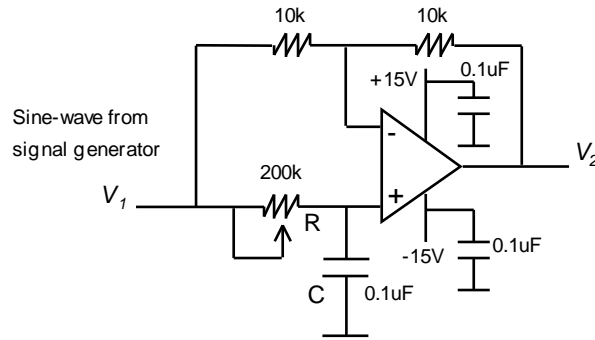

Fig. 2 Phase shifter circuit
Fig. 2 shows a phase shifter circuit, which is constructed using an op-amp ($\mu\text{A}741$). It has a unity gain and can give a phase shift between 0° and nearly -180° . The phase shift can be calculated by
The trimmer R in Fig. 2 has 3 pins. You should use the middle pin and either side pin. By adjusting R , you can vary the phase shift.
- (1) Switch on your function generator. Adjust the frequency of the sine wave to 1 kHz and the amplitude of the sine wave to 2 V_{p-p}. Note that if you choose attenuation by pushing the far right button, it is much easier to adjust the amplitude. Examine the two waveforms using your oscilloscope. Now you can save your oscilloscope screen, showing the two signals, on your USB memory. **Note that in your report, you MUST add scales and units for each axis and indicate amplitudes, to make a scientific drawing. Otherwise, you will lose marks.**
- (2) Add all pin numbers to the phase shifter circuit shown in Fig. 2 and then build the circuit. Note that each time you should build and test ONE circuit only, rather than building all circuits and test all of them together. You MUST be very careful to make connections. Otherwise, you may burn your components and/or waste time to re-check your circuits. In the past, almost all problems students had are wrong connections. **Before you switch on the power supply, please ask a demonstrator to check your power supply connections (not your circuit).**
- (3) Connect the sine-wave signal from the function generator to your phase shifter. Examine the input and output signals of the phase shifter, using your oscilloscope. Adjust the trimmer *R* in Fig. 2 to check the range of phase shift.
- (1) Aims of the experiment (Use your own words. Do not copy from this manual)
- (2) Draw a complete circuit diagram (**functional as shown in Figs. 2, 3 and 4, not layout**) **by hand** (because in the past some students made copy from other students), showing all individual circuits and connections between them, including all power supply, pin numbers and decoupling capacitors. DO NOT use Multisim to draw the circuits as the electronic drawing can be easily copied. **Note that only the circuit diagram should be drawn by hand and your report should be typed and printed. If you include an electronic version of your drawing (even hand drawing), you will lose mark.**
- (3) Experimental results (**not simulation results**) and data analysis, including all waveforms captured and explanation. Note that you must add X-Y axis, scales and units and indicate amplitudes.
- (4) Calculate the frequency response of your LPF and compare the calculated data with your measured results. List all results, including relative errors in percentage in Table 3.
Question 1: If -90° phase shift is required for a 1 kHz sine wave, calculate the resistor value of the trimmer R in Fig. 2 and show the detailed calculation procedure. Note that for engineering, 3 digits are sufficiently accurate.